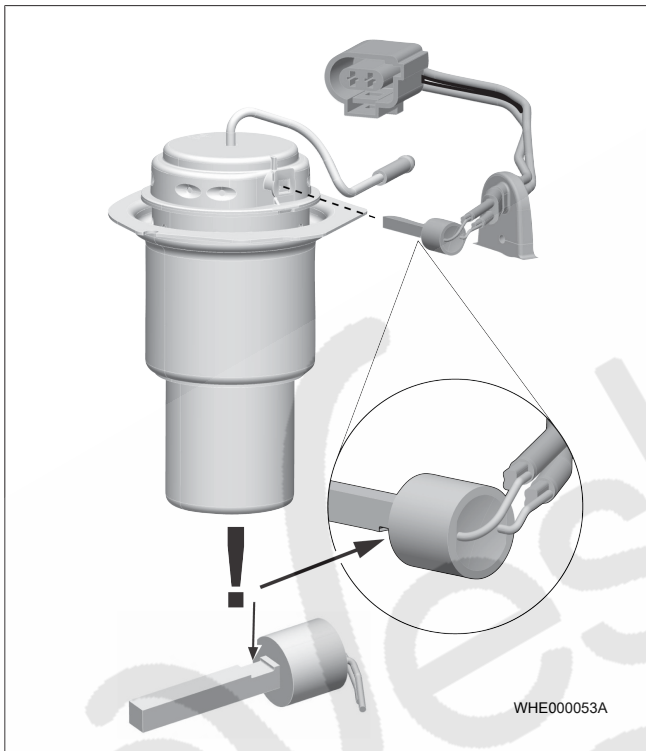

Fig. 17
- ▶ Fit glow plug correctly with the groove (see detail Fig. 17).